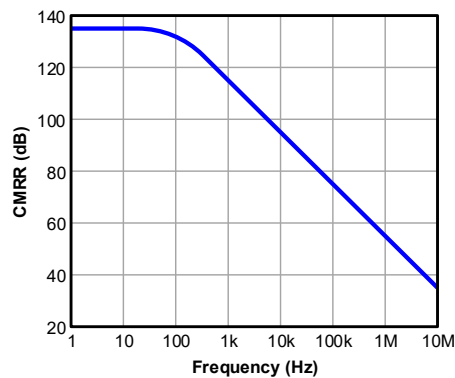

Figure 20. CMRR over Frequency
1. $\Delta V_{CM}/CMRR$ is frequency dependent because CMRR is frequency dependent. At low frequencies, CMRR can reach high values in the range of 80 to 140dB, depending on the type of op-amp. At high frequencies, CMRR rolls off at a rate of 20db/decade (see Figure 20).